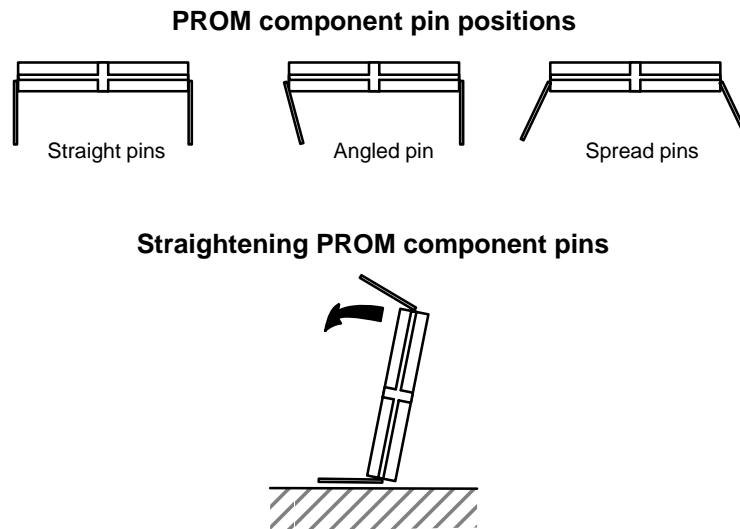

Figure 10-8 Straightening the Pins on the PROM Component
1. Examine the pins on the *original* PROM component (the PROM component you removed from the *failed* system board) to see if they are straight as shown in Figure 10-8. If they are spread too far apart or angled incorrectly as shown in Figure 10-8, you must straighten the pins as follows.
Lay the PROM component down on one side on a table, and carefully roll the component to bend the pins into line as shown in Figure 10-8. Once the pins are in line on one side, repeat this procedure with the other side of the component.